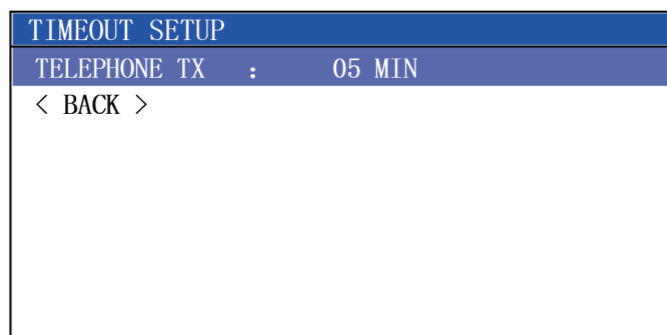

Figure6.6.3
- a:Select the <Timeout Setting> item in the system setting menu,and press the [ENT] key to open the timeout setting dialog box,as shown in Figure 6.6.3.